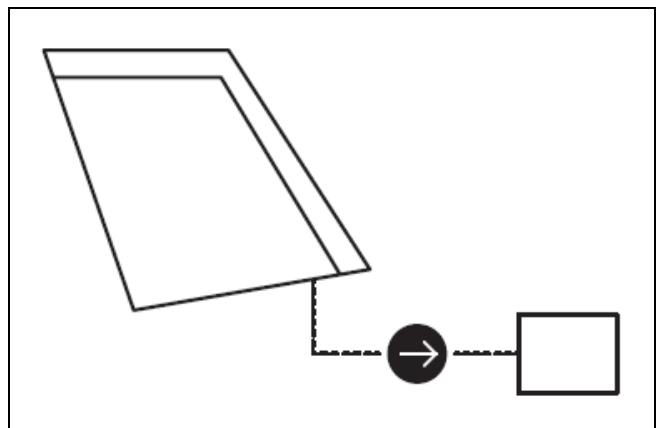

Figure 61
3. Run your cable to Awaken built-in junction box. See Figure 61.